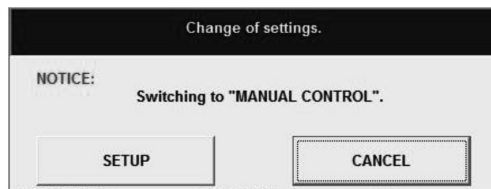

Fig.26
- ④ After filling in all the fields required at ③, click on "SETUP" button. And a message box as shown in Fig. 26 appears in response.
- ⑤ Clicking on "SETUP" at this point changes the previous settings to the new settings just entered. However, the flowmeter output also changes with the changes in settings made. For safety's sake, therefore, in applications where the flowmeter output controls valves or other devices, it is suggested that the affected control loop be switched to manual so as to keep the control loop free from the influence of flowmeter output.